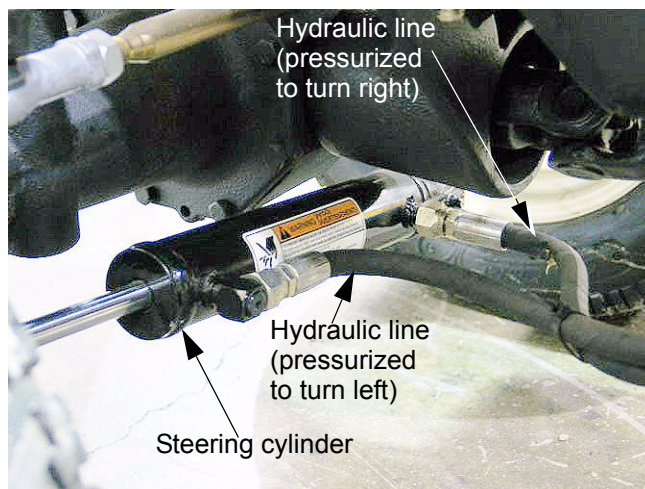

Figure 7.11
- 7.11. Disconnect the hydraulic line between the steering unit and the steering cylinder using a 5/8" wrench and a 3/4" wrench. See Figure 7.11.